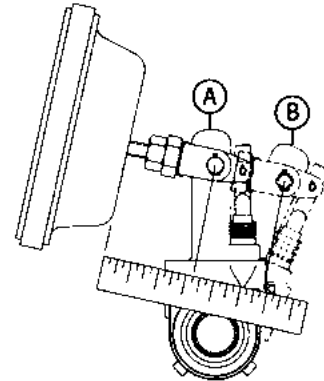

Figure 3 - Measuring Maximum Stroke
3. Using a ruler, measure the distance from the face of the air chamber to the center of the large pin in the clevis (A) (see fig. 3). Make an 85 psi brake application and allow the chamber push rod to travel its maximum stroke. Measure to the center of the large pin (B). The difference between (A) and (B) is the push rod stroke. Check the following chart for proper maximum stroke after adjustment of the brakes.
1. **The Gunitite slack adjuster should not require manual readjustment.** If the maximum chamber stroke is within the range for the size chamber used (see fig. 3), the slack adjuster should not be manually readjusted. If the chamber stroke exceeds the limit, measure the free stroke. If the free stroke is good, but the applied stroke is too long, there is a problem with the foundation brake. Check the foundation brake for missing or worn components, cracked brake drums, or improper lining to drum contact.